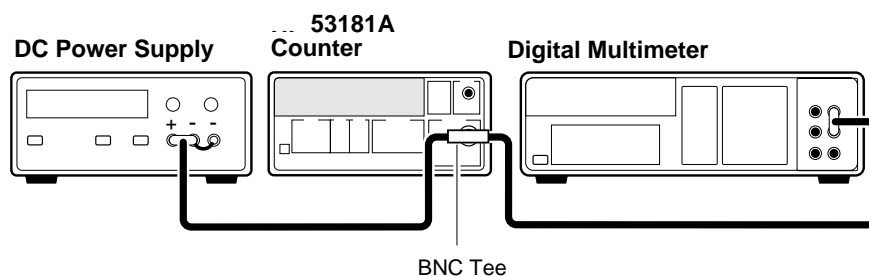

Figure 2-6. Gain Calibration Setup
- 4 Connect the Counter, dc power supply, and digital multimeter shown in Figure 2-6.